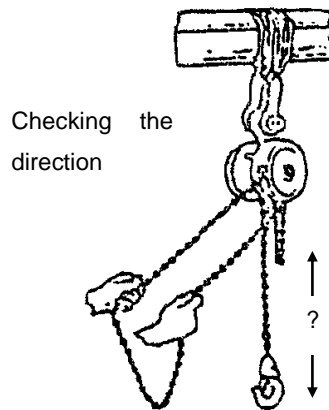

FIG 38.
H. Keep the messenger chain clear of the load and in line with the messenger wheel, and check the direction in which the chain must be pulled to raise or lower the load. (Fig 38)